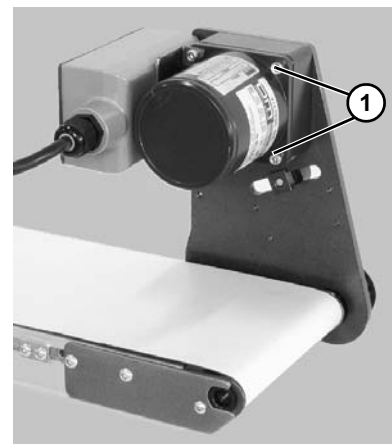

Figure 31
5. Remove four (4) screws (**Figure 31, item 1**) and detach gearmotor.
6. Mount new gearmotor with four (4) screws (**Figure 31, item 1**). Tighten to 45 in-lb (5 Nm).